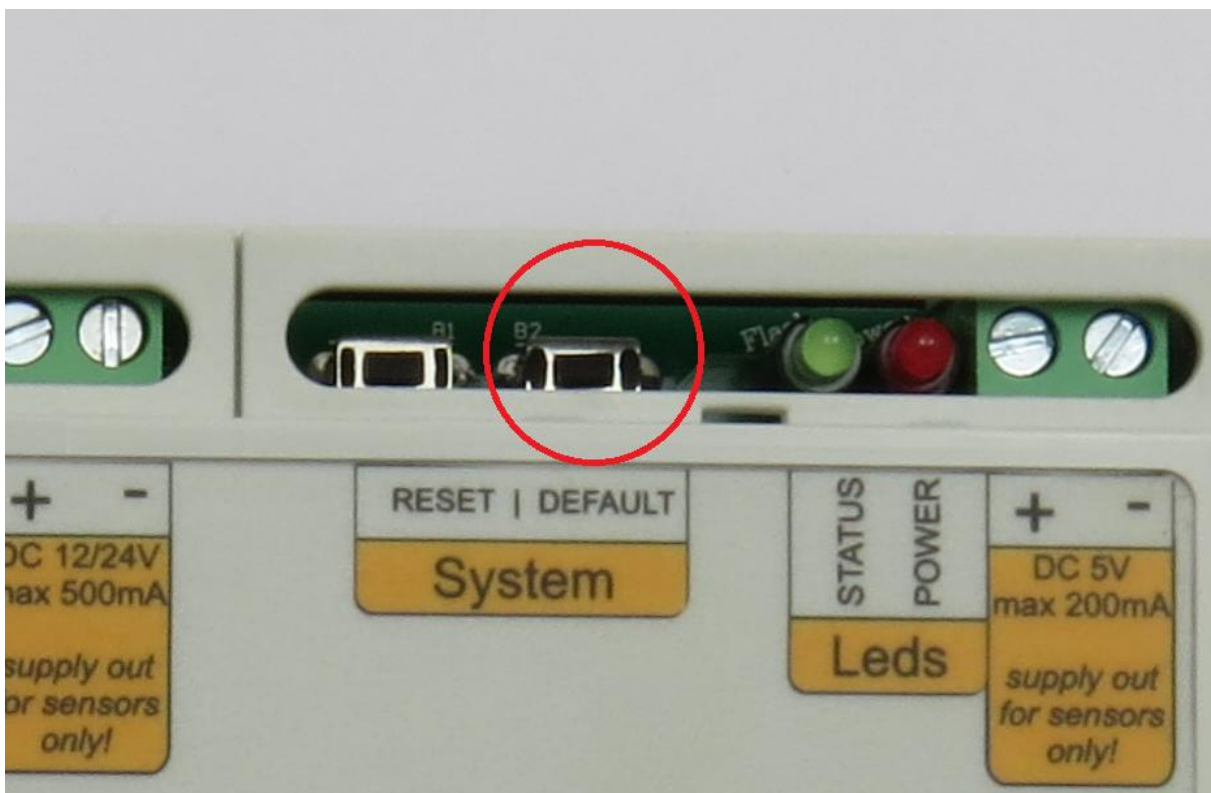

Figure 23. Loading the default settings
2. Press and hold the **DEFAULT** button (Fig. 23);